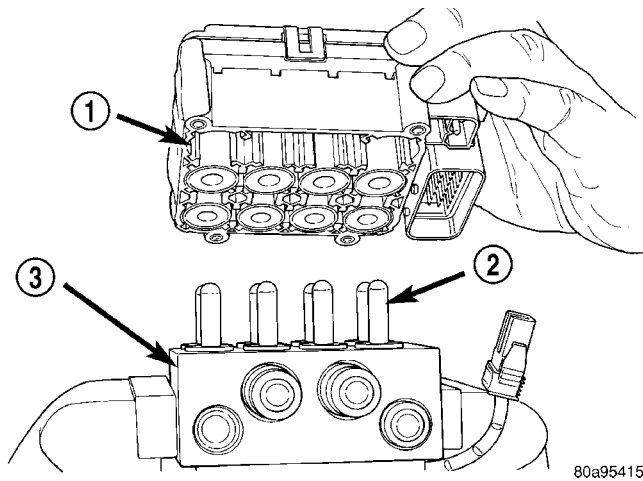

Fig. 21 Remove/Install CAB
(4) Remove the CAB from the HCU (Fig. 21).
- (1) Install the CAB (Fig. 21) on the HCU.